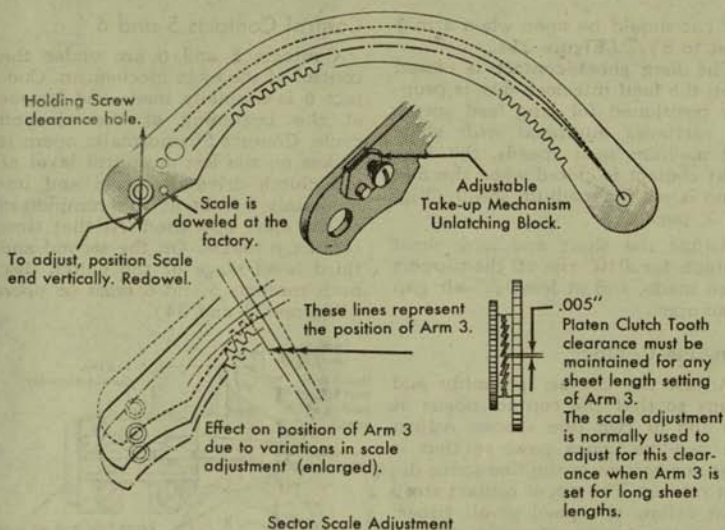

Figure 29
Figure 29 demonstrates the variations in the position of arm 3 obtained by moving the scale.
8. Sector Scale (Figure 29).